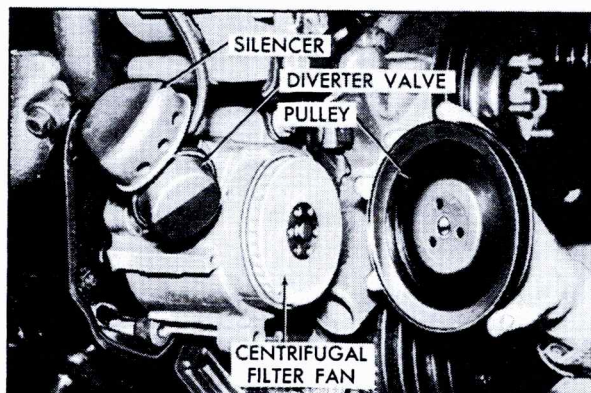

Fig. 6-100 A.I.R. Pump
a. Air Pump (Fig. 6-100)
e. Diverter Valve (Fig. 6-100)
106. Silencer (Fig. 6-100)
107. Diverter Valve and Silencer Assembly (Fig. 6-100)**a. Removal**
108. Centrifugal Filter Fan (Fig. 6-100)
2. Remove three screws and remove pump pulley, Fig. 6-100.